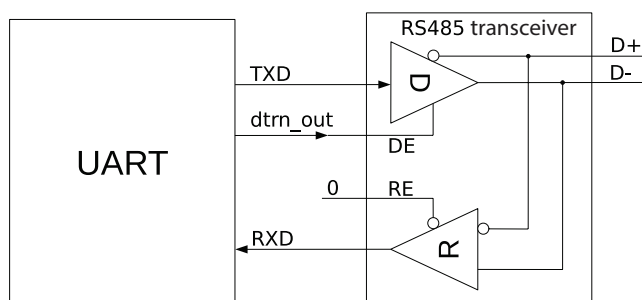

Figure 19.4-6. Driver Control Diagram in RS485 Mode
As shown in Figure 19.4-6, in a two-wire multidrop network, an external RS485 transceiver is needed for differential to single-ended conversion. An RS485 transceiver contains a driver (D) and a receiver (R). When a UART controller is not in transmitter mode, the connection to the differential line can be broken by disabling the driver (D). When DE is 1, the driver is enabled; when DE is 0, the driver is disabled.
DE can be controlled by either software or hardware. To reduce the cost of software, in our design, DE is controlled by hardware (can still be controlled by software). As shown in Figure 19.4-6, DE is connected to `dtrn_out` of UART (please refer to Section 19.4.9.1 for more details).
In a two-wire multidrop network, UART controllers support bus snooping if RE of the external RS485 transceiver is 0. By default, a UART controller is not allowed to transmit and receive data simultaneously. If `UART_RS485TX_RX_EN` is set and the external RS485 transceiver is configured as in Figure 19.4-6, a UART controller may receive data in transmitter mode and snoop the bus. If `UART_RS485RXBY_TX_EN` is set, a UART controller may transmit data in receiver mode.